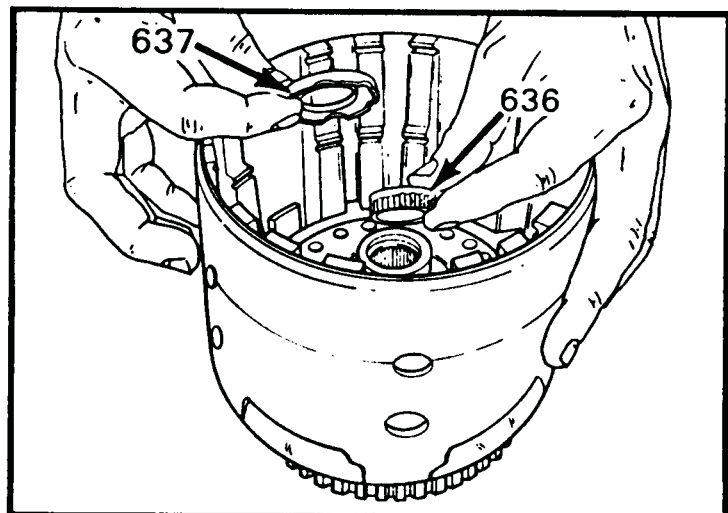

Figure 94
6. Install the input housing lube oil seal into the input housing, as shown in Figure 94.
7. Install the thrust bearing assembly in the input housing as shown in Figure 94.